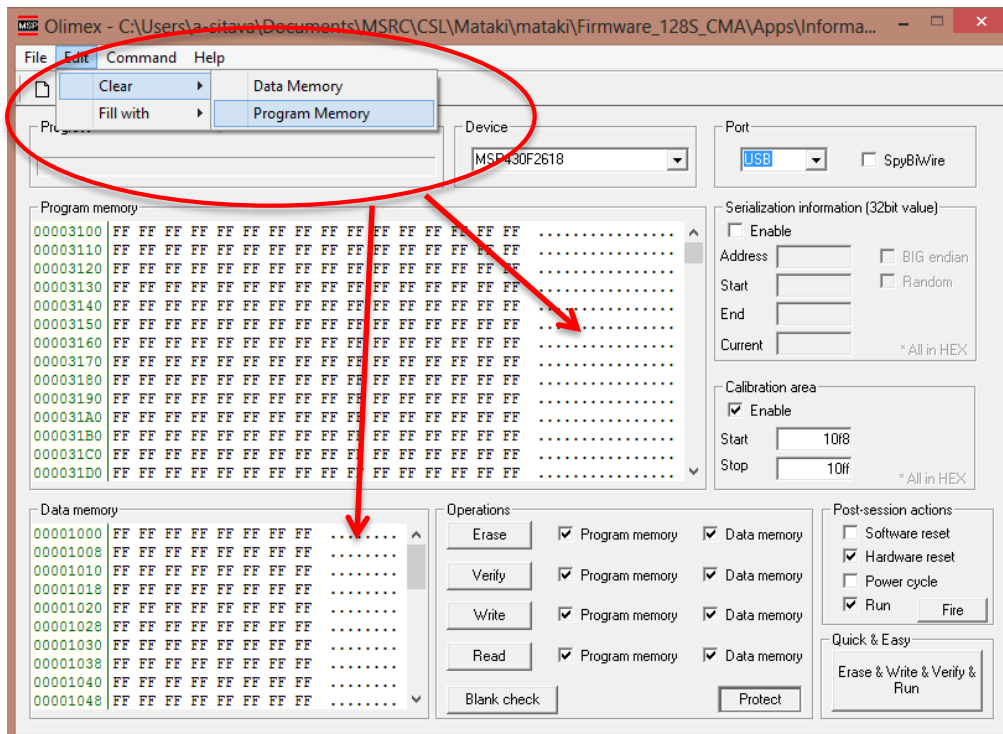

Figure 16 - Clear Data Memory and Program Memory before loading new program
- 1) Depending on the type of programming, you may need to clear the memory of the Olimex software prior to populating it with the new code that you want to take by Olimex software and deploy. You can do so by clearing the Data Memory and Program Memory as shown in figure 16. In the case of reprogramming the microcontroller with the original firmware that is left available, it is recommended that you clear the two memory areas of Olimex every time before loading the code.